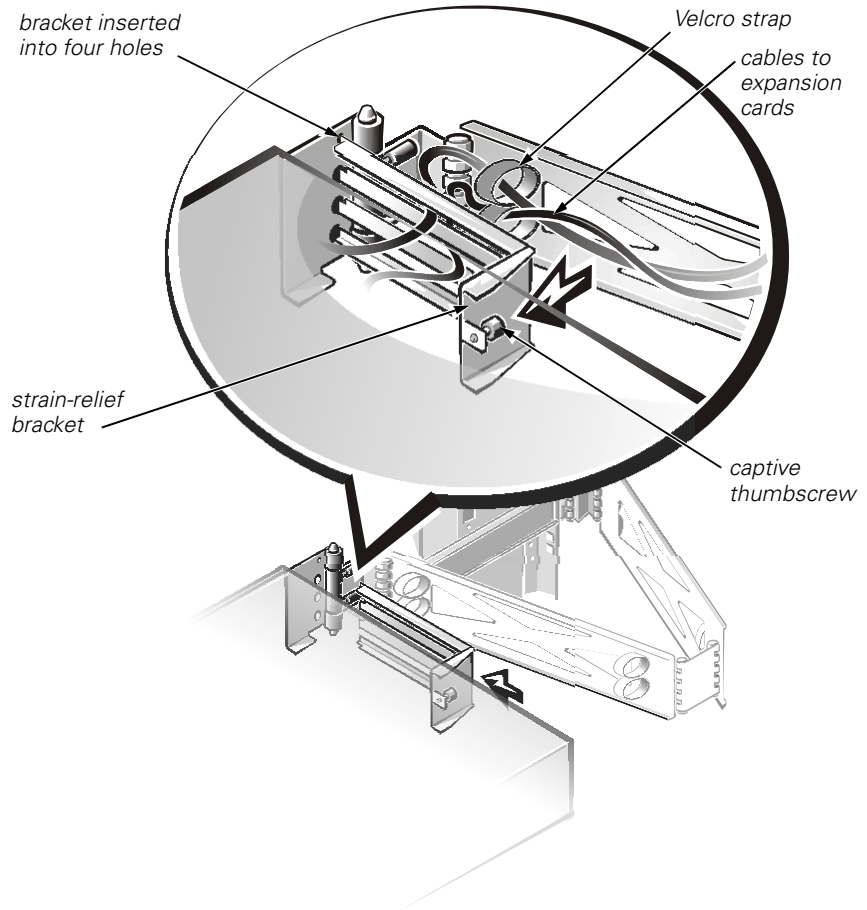

Figure 1-12. Attaching the Strain-Relief Bracket
5. Install the strain-relief bracket to the back of the system (see Figure 1-12):